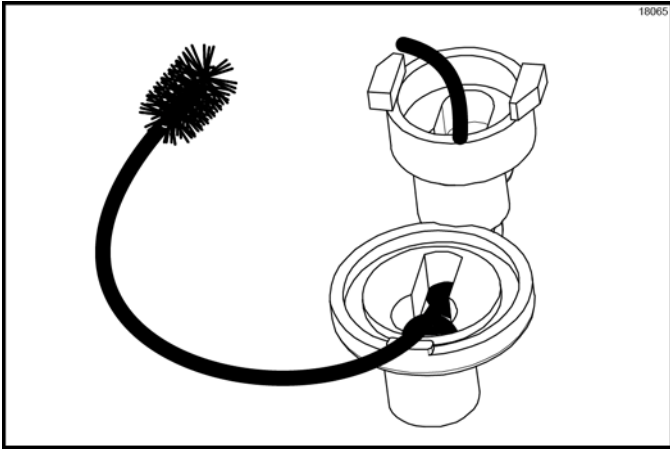

Figure 6-104
6. Insert the black shielded brush, by the non-bristle end, into the passageway between the inlet valve and the outlet valve. (See Figure 6-104.)